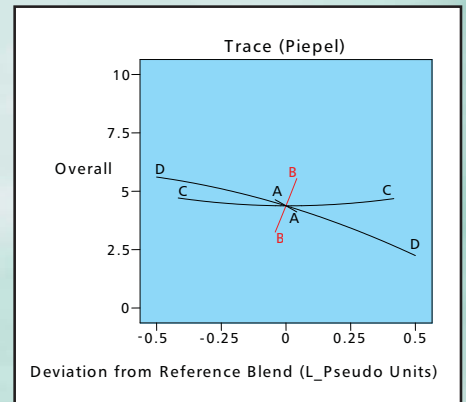

Figure 3: Trace plot for overall intensity
Furthermore, due to the impact of citric (B) on acidity it must be precisely controlled for hitting the desired intensity (level 5) overall. This can be seen on Figure 3.